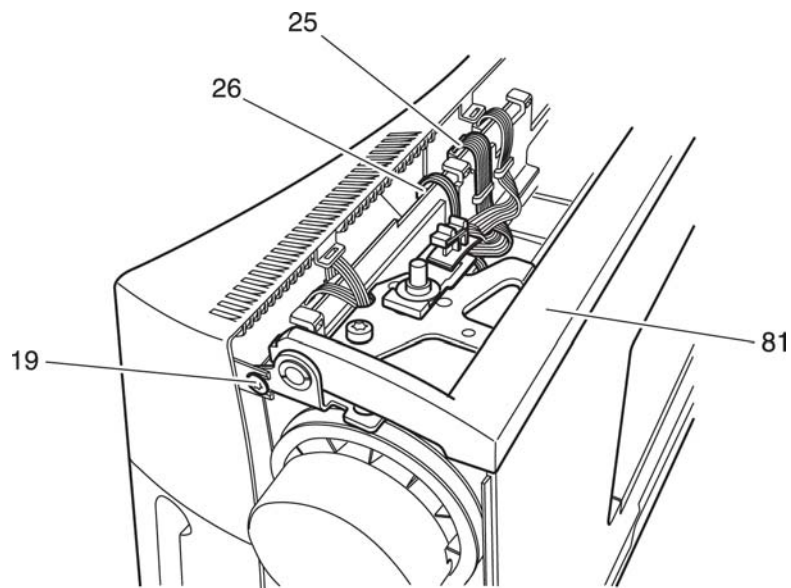

Fig. 48b
- Pull the two plug sockets 25 and 26 for the flat cable from the circuit board (Fig. 48b).